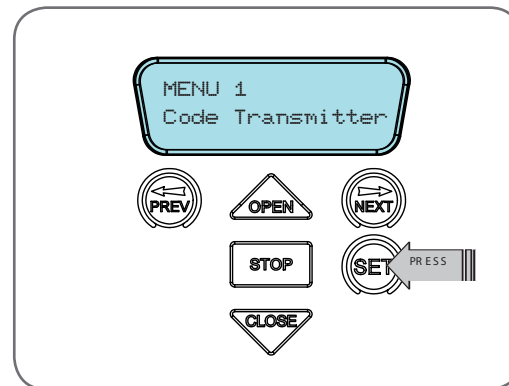

Fig 11.1
- After a short delay the MAIN SCREEN (**Fig. 11.1**) will be displayed. If this is the first time the Axess® Pro Series 3000 is being used, the MAIN SCREEN should enter into limit set mode and the blue close LED will be flashing. If the display shows that an input is active, then rectify the situation before continuing with the procedure for setting the travel limits. Press and hold the CLOSE button - the shutter should start closing.
- Press SET to enter the code set procedure (Fig. 11.1).